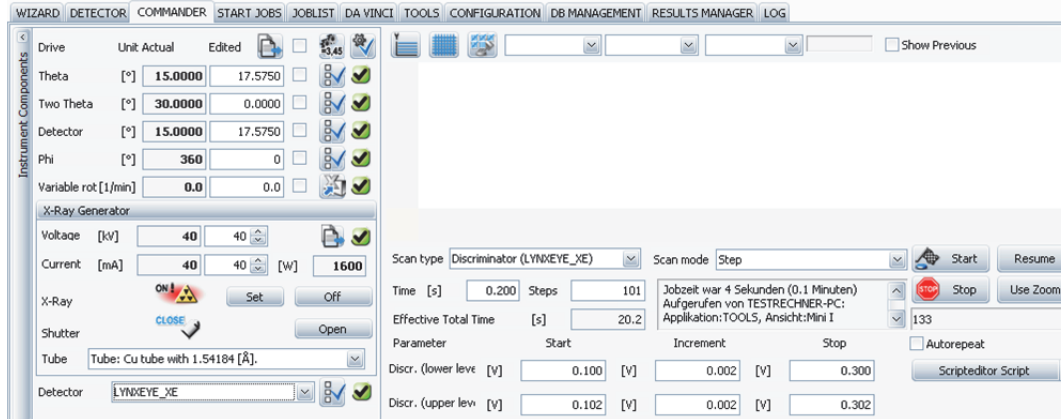

Figure 3.3: Example of measurement parameters for DISCRIMINATOR scan
4. Figure 3.3 shows an example of a measurement parameter set suitable for a discriminator scan using Cu radiation and the backside of a PMMA sample (2mm divergence, 2.5° prim Soller, Ni-filter). The fields show the selected settings for the measurement, the smallest increment is 0.002V.